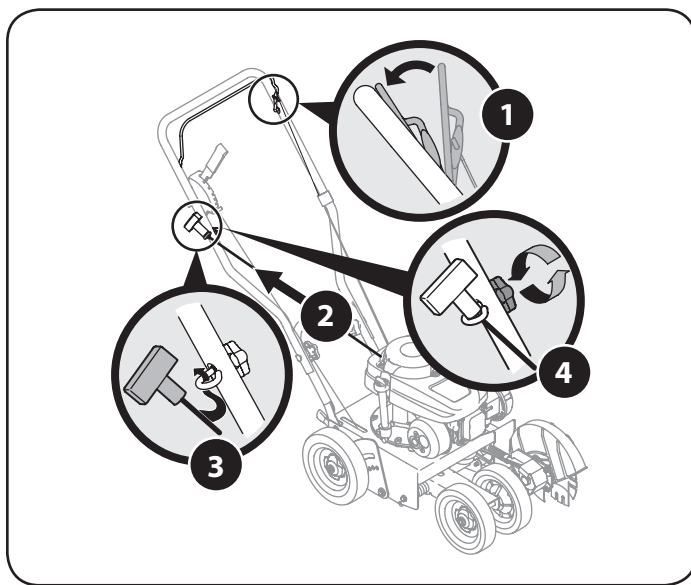

Figure 5
1. Locate the rope guide and wing knob found in the manual bag. Using the wing knob, secure but do not tighten the rope guide to the right side of the upper handle as shown in Figure 5.
NOTE: The starter rope will not pull out of the engine unless the blade control (refer to Figure 5) is depressed against the upper handle.